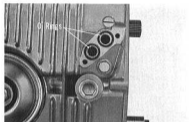

Fig. 7B-161
6. When installing the engine oil joint, caution not to forget the O rings on the oil hole grooves of the lower crankcase. (Fig. 7B-161)